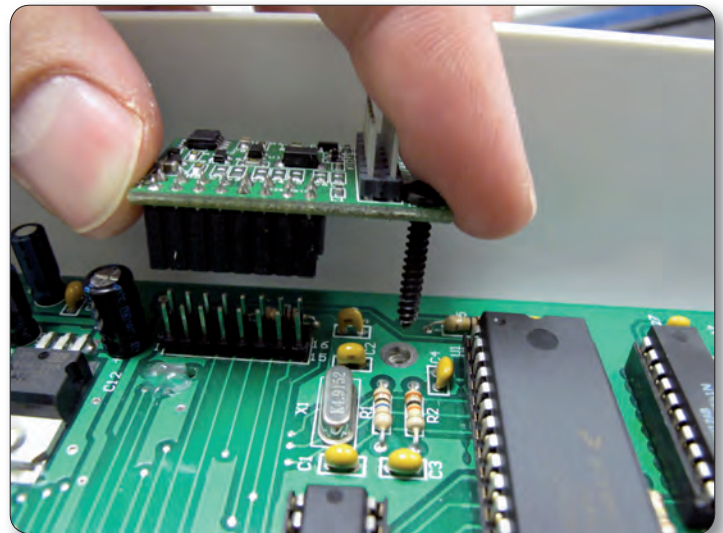

Figure 12
6. On the old C-Pod (the one just removed from the HQ Sixteen), gently pull upward on the Lock Board to remove it from the old C-Pod and press it firmly in place on the new C-Pod (Figure 12). Make sure both rows of pins enter the header on the underside of the Lock Board. The red LED should be located at the top right when looking into the C-Pod.